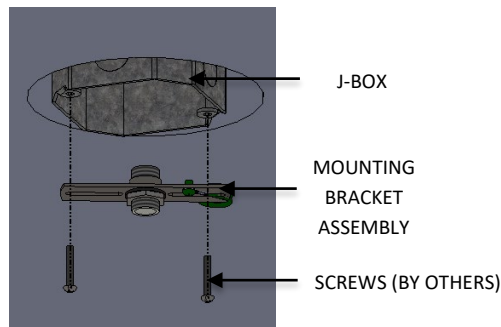

FIG. 12 – CORD INSTALLATION
1. ATTACH MOUNTING BRACKET TO JUNCTION BOX (BY OTHER) as shown in FIG.12.